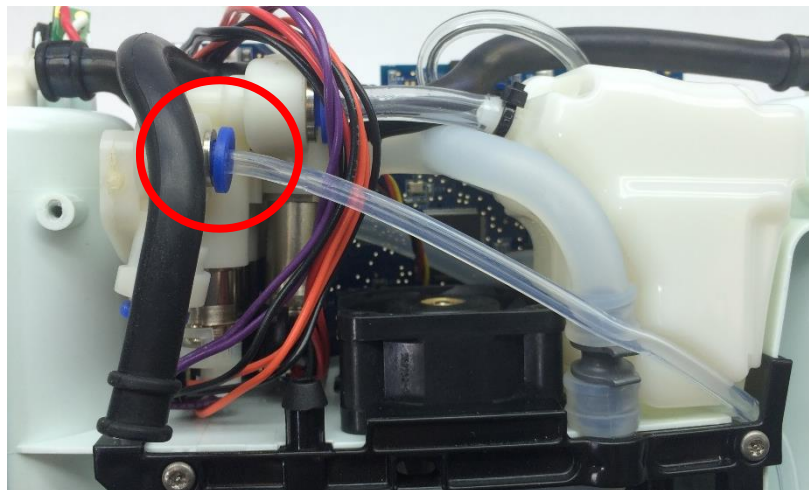

Figure 8: Exhaust Tube and Column Tube
3. Locate the two columns tubes attached to the Product Manifold. Release the Column B Tube from its quick connect by pushing down on the retaining ring while pulling on the tubing. (Figure 8).
4. Reinstall the three tubes into their respective quick connects, starting with the accumulator tubing then the column tubes. Pull on the tubing to ensure the tubes have been correctly inserted into the manifold quick connects and do not pull out (Figures 8 and 9).